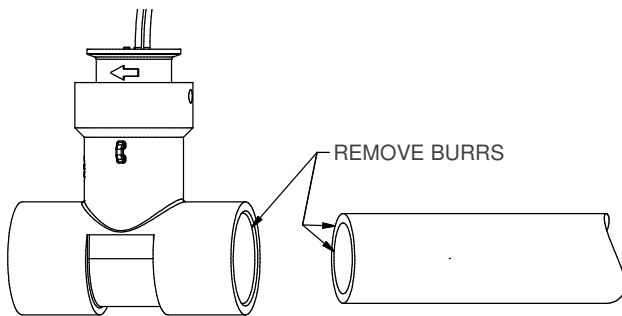

Figure 2
1. Remove all burrs from inner and outer diameter of PVC pipe that will be connected to the FLOMEC Tee. Also, remove inner diameter burrs from FLOMEC Tee (See Figure 2).